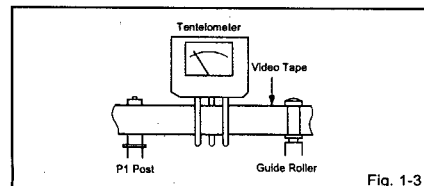

Fig. 1-3
- Install the tentelometer as shown in Fig. 1-3. Confirm that the meter indicates 20 ± 2 gf in the beginning of playback.